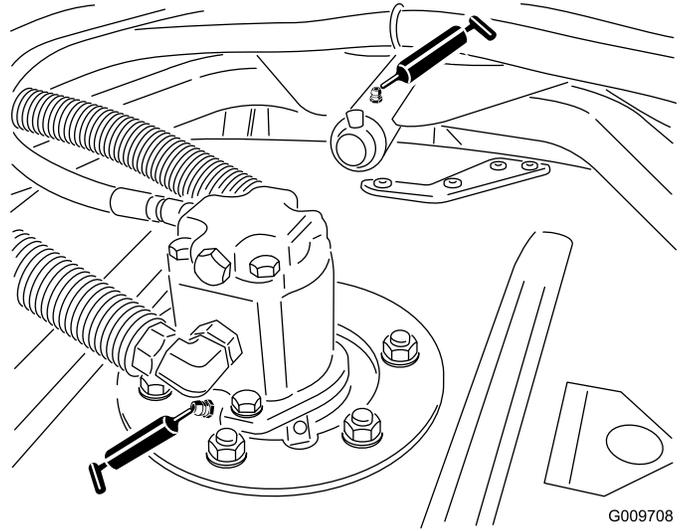

Figure 50
- Cutting unit spindle-shaft bearings (2 per cutting unit) (Figure 50)
- Cutting unit carrier-arm bushings (1 per cutting unit) (Figure 50)